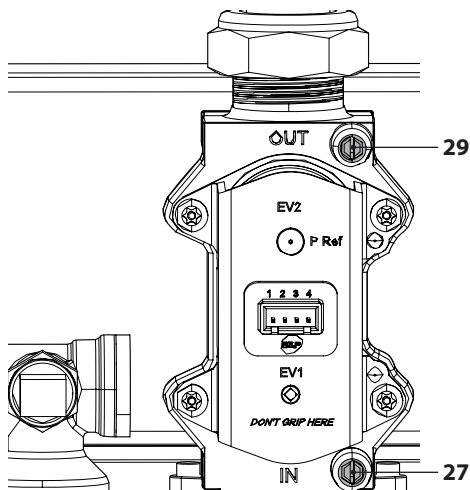

Figure 7.1
- With the boiler turned off (out of service), check the supply pressure using the tapping point 27 in Figure 7.1 and compare the value read with those shown in the Gas supply pressure table in section "Technical data M300V.2025 SM" on page 26, "Technical data M300V.2530 SM" page 30 and "Technical data M300V.3035 SM" page 34.
- Fully close the tapping point 27 in Figure 7.1.